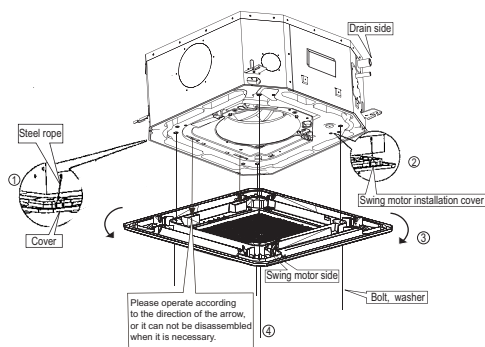

Fig.5-11
- Align the swing motor on the panel to the tubing joints of the body properly. (Refer to Fig.5-11)
- Hang the four fixed rope of the main body to the installation cover and the other three covers of the swing motor: (Refer to Fig.5-11① and ②)
- Install the panel on the main body with bolt (M5×16) and washer. (Refer to Fig.5-11④)
- Regulate the panel in the direction of the arrow in Fig.5-11.③ slightly to fit the panel's center to the center of the ceiling's opening. Guarantee that hooks of four corners are fixed well.